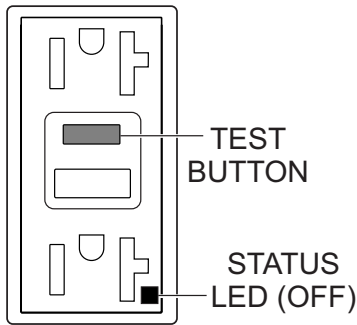

Figure 54. GFCI Receptacle (OFF)
4. Press the **TEST button** (Figure 54) on the GFCI receptacle and verify that the status LED turns **OFF**.